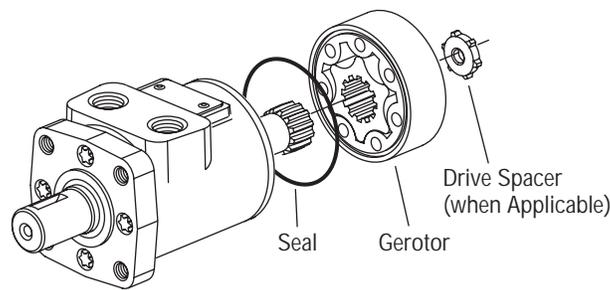

Figure 3
- 6 Remove seal from gerotor (see Figure 3).